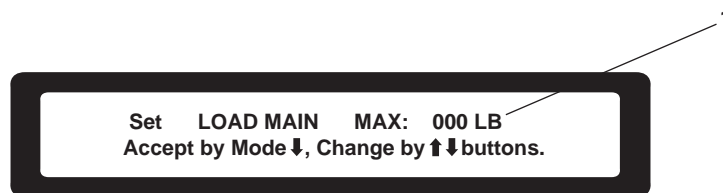

Figure 36. Load Main Max Display Screen
- SET MAX appears as the default setting in the load preset selection screen (figure 35). Press the MODE button (figure 17, item 3) and down arrow button (figure 17, item 4) on the LMI receiver panel (figure 17, item 2) to select the load main max display screen (figure 36).
- Press the down arrow button (figure 17, item 4) or up arrow button (figure 17, item 5) on the LMI receiver panel (figure 17, item 2) until the readout (figure 36, item 1) displays the maximum load value desired.